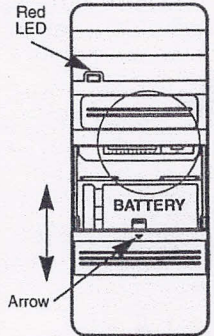

Fig. 1
- Press firmly below arrow and slide cover off (Fig. 1).
- Press firmly below arrow on battery cover and slide cover off (Fig. 1).